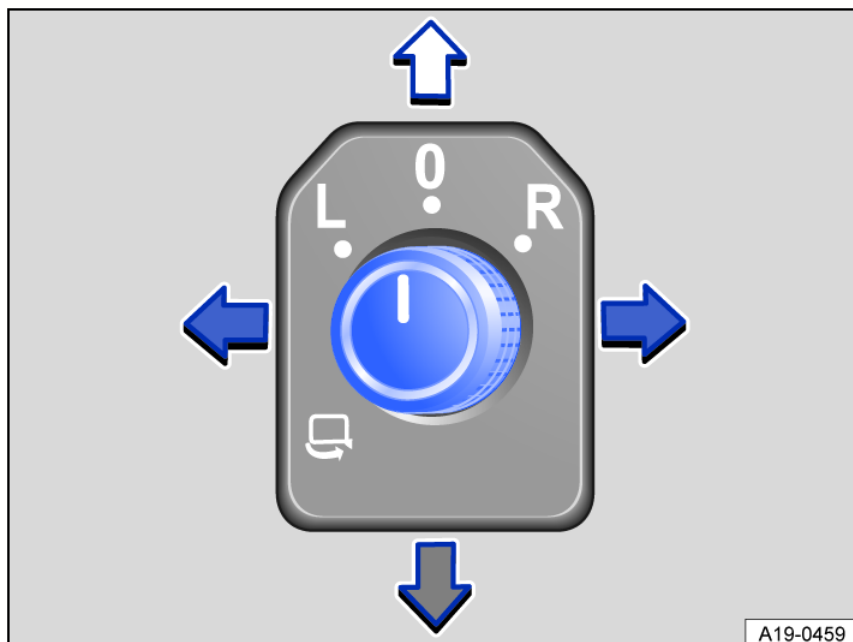

Fig. 101 In the driver door: knob for the outside mirrors.
2. Turn the knob in the driver door to the preferred symbol fig. 101.